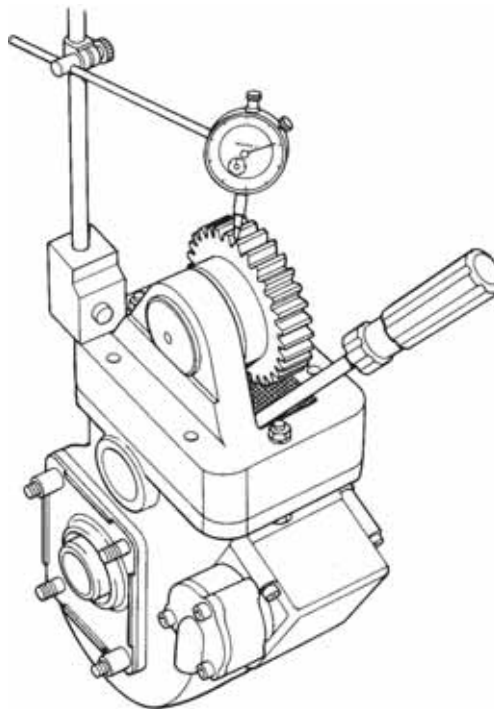

Figure 8 Checking Adapter to PTO Backlash
- h. Install a dial indicator on the adapter housing (Figure 8) with the dial indicator plunger resting squarely on the adapter gear.